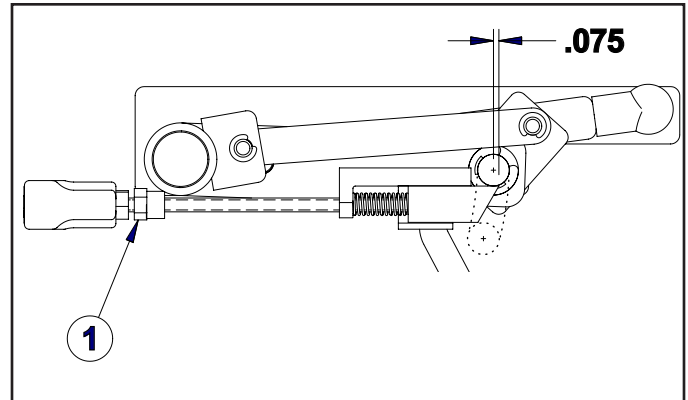

Figure 4-17. O2 Bottle Holder Adjustment
- (1) The latch should extend past the bar (approximately .075")
- (2) To increase the amount of latch engagement, turn the poly nut item (1, Figure 4-17) counter clockwise. Take care not to rotate the threaded rod or pull handle.
- (3) Operate the O2 holder. The latch should move smoothly past the rod.
- (4) Once latched, the latch should not release while in the storage position without pulling the release handle.
- (5) If the latch releases on its own, repeat steps 2-4.